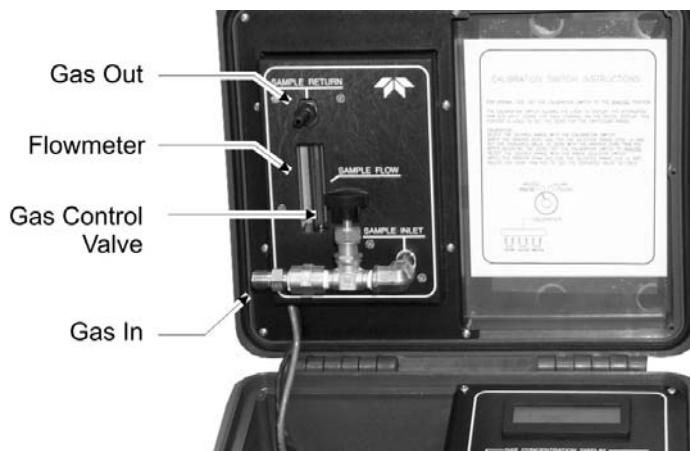

Figure 3-2: Gas Connections
Inlet gas connections are made at the gas control valve mounted on the upper panel. Connect the sample or calibration gas to the gas control valve using the 1/8" tube connector on the gas control valve. See Figure 3-2.
Connect a sample return line to the 3/16" barbed hose connection which is located above the flowmeter as shown in Figure 3-2. Make sure
3. Plug the DC adapter into the unit. See Figure 3-2. Plug the other end into a 90-264 VAC 43-67 Hz supply.